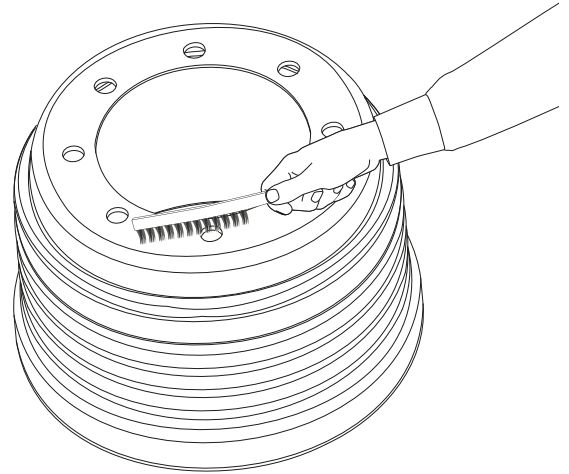

Figure 117: Clean Drum Mating Surfaces
1. Clean all mating surfaces on hub, drum, wheels, and nuts. Refer to Figure 117.